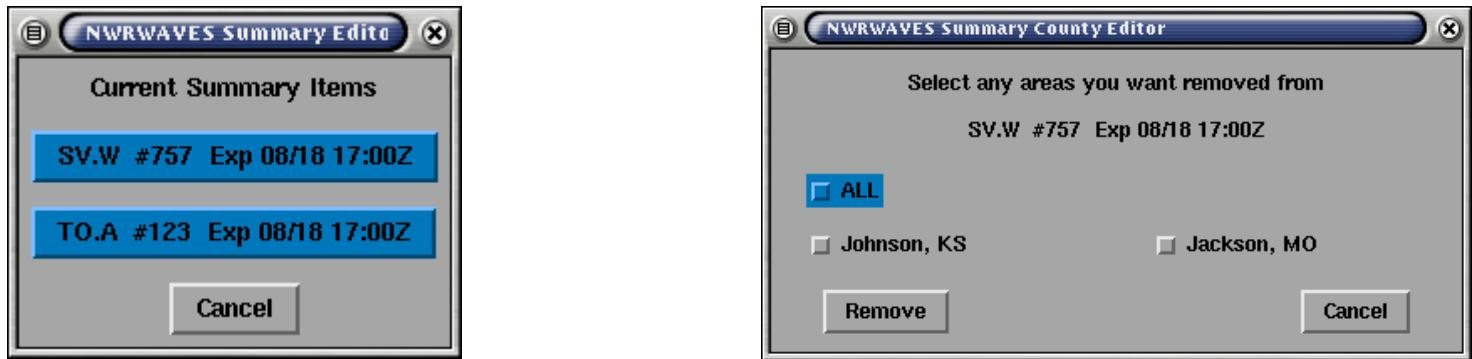

Figure 10 – NWRWAVES summary message editing GUI interfaces
- b. **View/Edit VTEC\_Summary File** – For offices using the summary message capabilities described in Section 3 – Tab 3 (page 17), users can manually edit/delete specific product summary messages should the automated VTEC replacement method fail. The pop-up GUI which appears when there are active hazards being tracked for summarization (Figure 10) is a simple interface. You select the hazard you want to modify from a list of buttons, and then you can either clear all LAC(s) at once or selected LAC(s) through their individual radio buttons. Sites will rarely (if ever) need to use this interface, since active hazards are tracked through VTEC action codes in follow-up statements. This will be a useful interface though, if you track a non-VTEC hazard such as an FFW in the interim period before full VTEC implementation.